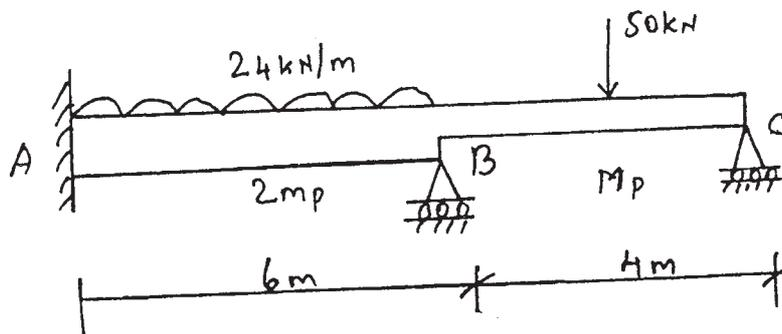

Fig. Q. 15 (b)
- (b) Calculate the plastic moment capacity required for the beam shown in Fig. Q. 15 (b). Take load factor = 1.5.